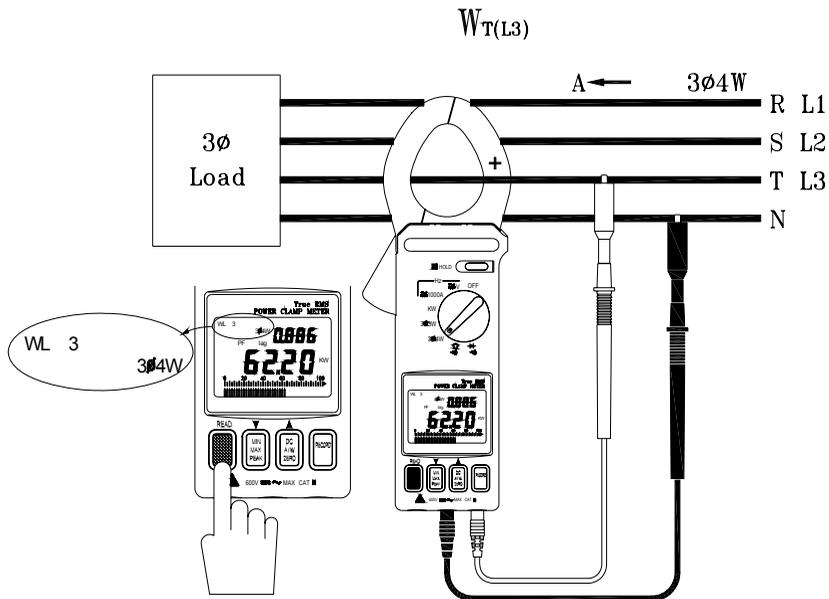

Figure 9
6. The meter will process these three sets of data (refer to figure 9) and display the $3\phi 4W$ power measurement (**WL123** will be displayed). The $3\phi 4W$ measurement will then be stored in memory. The following equations are provided for your information.